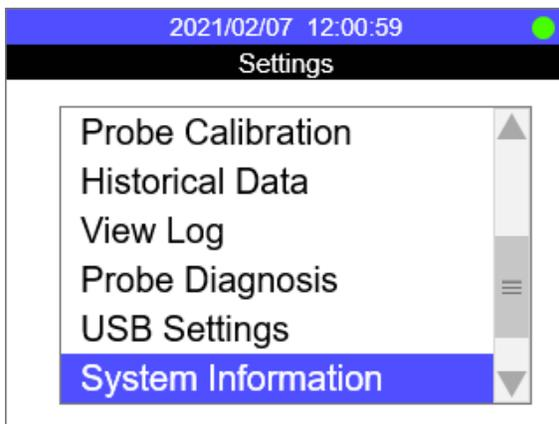

Figure 6. Settings
8) Select **Probe Calibration** from the Settings screen as shown in Figure 6. Then select **Zero cal** as shown in Figure 8.
Select **Probe Calibration** from the screen shown in Figure 6. Using the same techniques as outlined for zero gas calibration, establish an oxygen containing calibration gas (99.9% Nitrogen / 0.1% Oxygen Gas Cylinder) flow for 15 minutes or until the ppb reading has stabilized. Select **High Cal** and press OK to start the slope calibration. Use the UP/DOWN buttons and OK button to enter the specific oxygen percentage concentration in the calibration gas being used. If the slope calibration is complete, a calibration succeed message will be prompted.